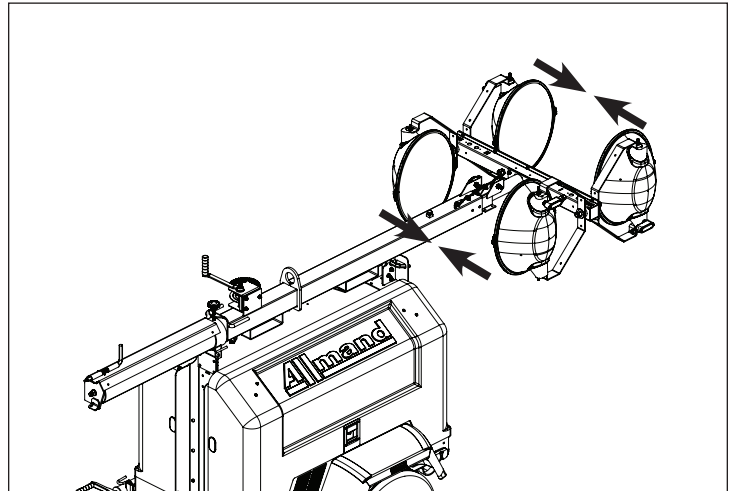

Figure 2
3. Reposition the light fixtures for traling / transport by rotating the lamp yoke perpendicular to the light bar. Face the light fixtures toward the center of the trailer. See Figure 2.